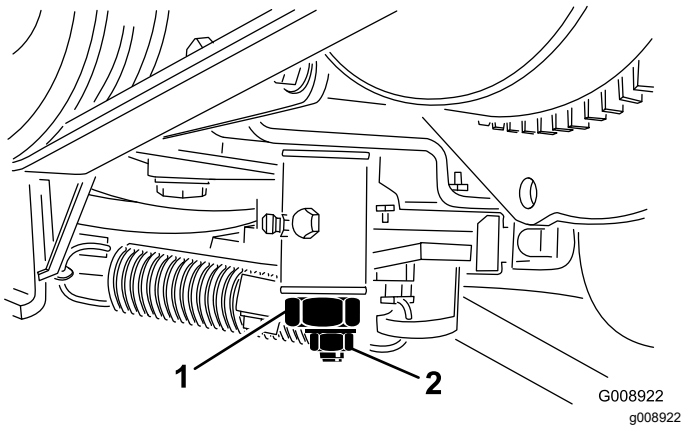

Figure 51
2. Loosen the throttle cable connector on the injection pump lever arm (Figure 51).